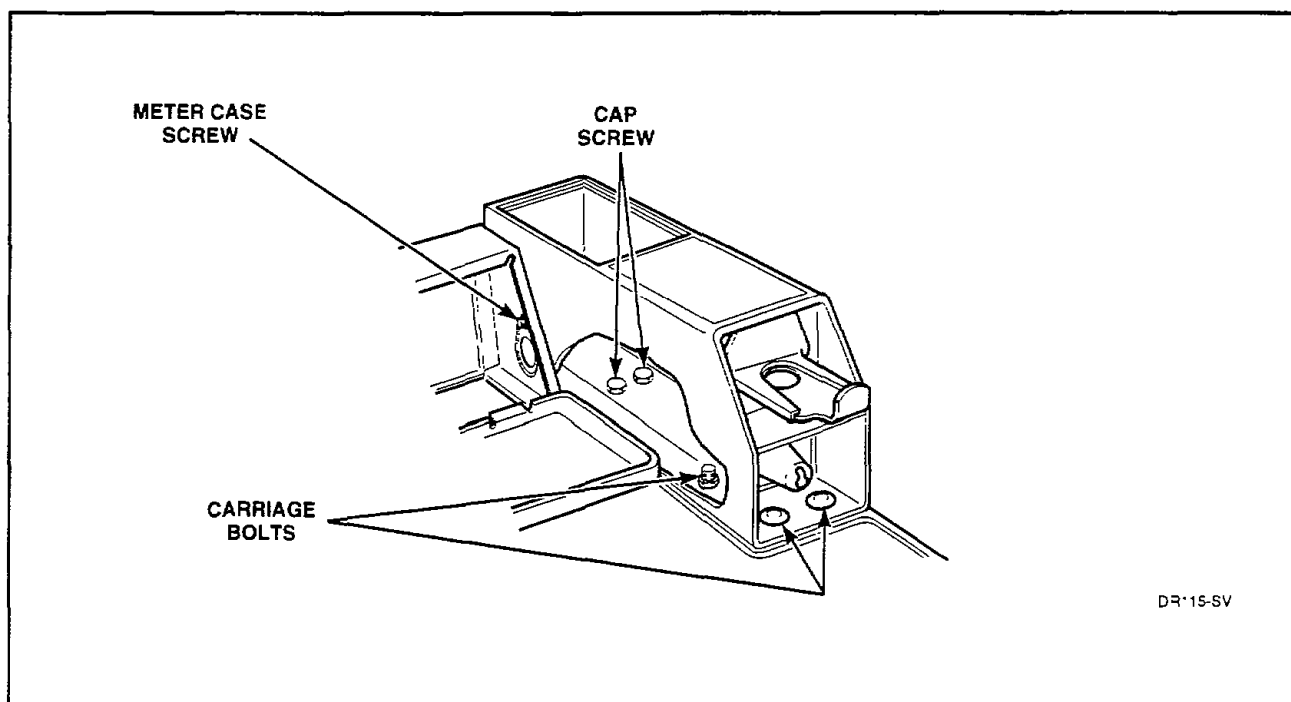

Figure 9
- Remove two cap screws holding meter case to cabinet top, *Figure 9*.
- Remove nut, lockwasher and screw holding meter case to right end of control hood, *Figure 9*.
- p. Lay the cabinet top assembly flat, remove carriage bolts, washers, bracket, gasket and nuts holding meter case to cabinet top and remove meter case. *Figure 9*.